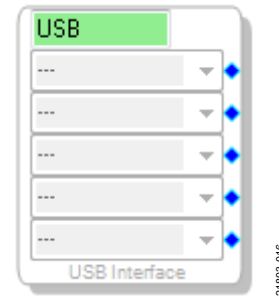

Figure 16. **USBi** Detected by SigmaStudio
6. Ensure that SigmaStudio can detect the **USBi** on the USB port of the PC by checking if the background of the **USB** label is green in the **USB Interface** block (see Figure 16).